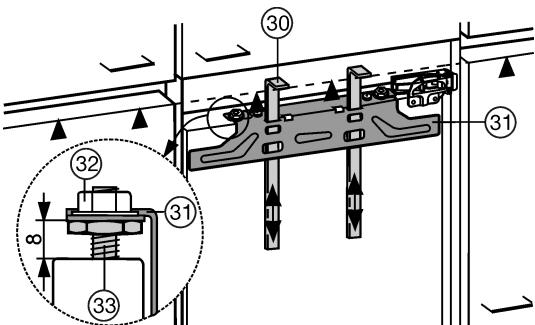

Fig. 18
The fitting aids Fig. 18 (30) are required for both doors. Therefore fit the unit doors one after the other.
- ▶ Slide up the assembly aids Fig. 18 (30) to the height of the unit door. Lower stop edge ▲ of the assembly aid = upper edge of the unit door to be fitted.